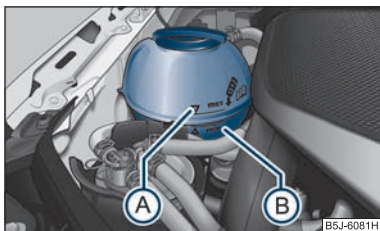

Fig. 142 Engine compartment: Coolant expansion bottle
- Check the level of coolant in the coolant expansion bottle ⇒ fig. 142. The coolant level when the engine is cold must lie between the “MIN” (B) and “MAX” (A) markings. The level may also rise slightly above the “MAX” marking when the engine is warm.
- Place a cloth over the cap of the coolant expansion reservoir ⇒ fig. 142 and unscrew the cap **carefully** by turning it to the left ⇒ ⚠.